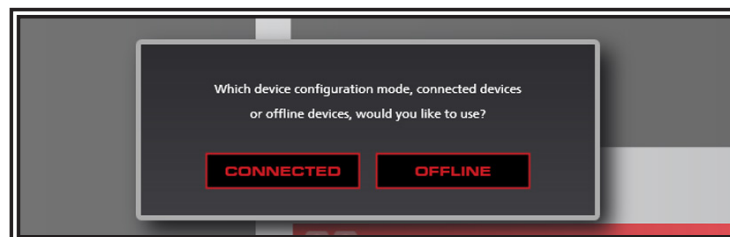

Figure 3
The Matrix Configurator has two modes (shown in Figure 3):
- Offline: This mode allows the software to be programmed while not connected to any devices. If selected, the user has the option to choose a configuration from a saved file or manually select the devices as shown in Figure 3 and 4. Note: an Internet connection will be needed if downloading a new lightbar for the first time.